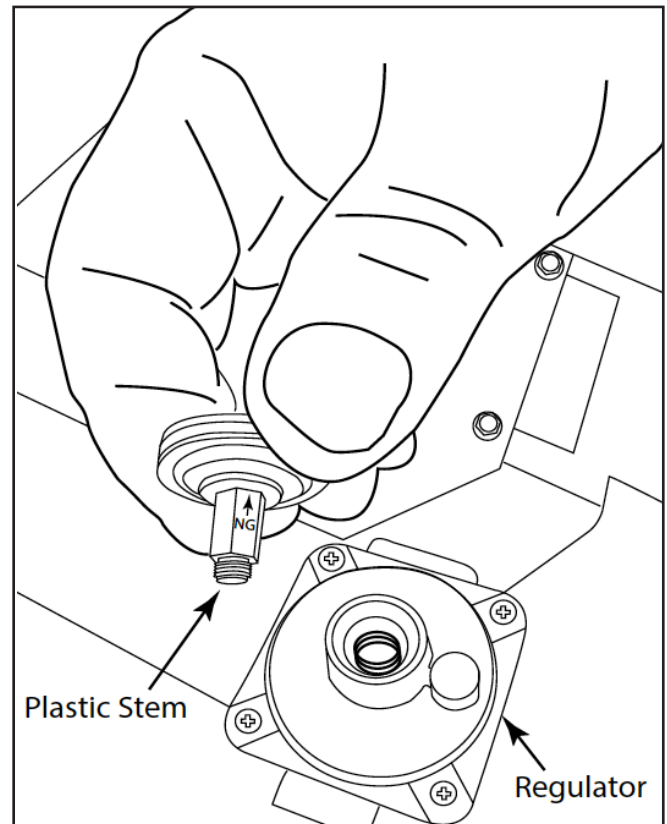

Fig. 4 Regulator stem shown in NG setting
Step 5: On the underneath side of the aluminum cap is a plastic stem. Using a 6mm wrench remove the stem, unscrew the stem (counter-clockwise), turn it over and install the opposite end back into the cap. See Fig. 4.
The gas type is determined with the arrow pointing at the aluminum cap as seen in Figs. 4 and 5 on page 30.